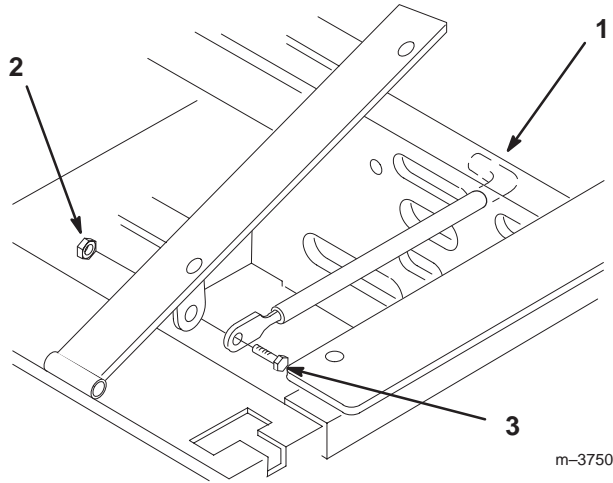

Figure 3
1. Tilt the seat up. Remove the locknut (5/16 inch) from bolt attaching seat retaining rod to seat frame (Fig. 3).
2. Remove retaining rod from seat and insert the **L** shaped end of the rod into the hole directly above the left-side hydraulic pump (Fig. 3).
3. Place the seat retaining rod to the outside of the mounting tab of the seat frame and secure with a bolt (5/16 x 1 inch) bolt and locknut 5/16 inch (Fig. 3).